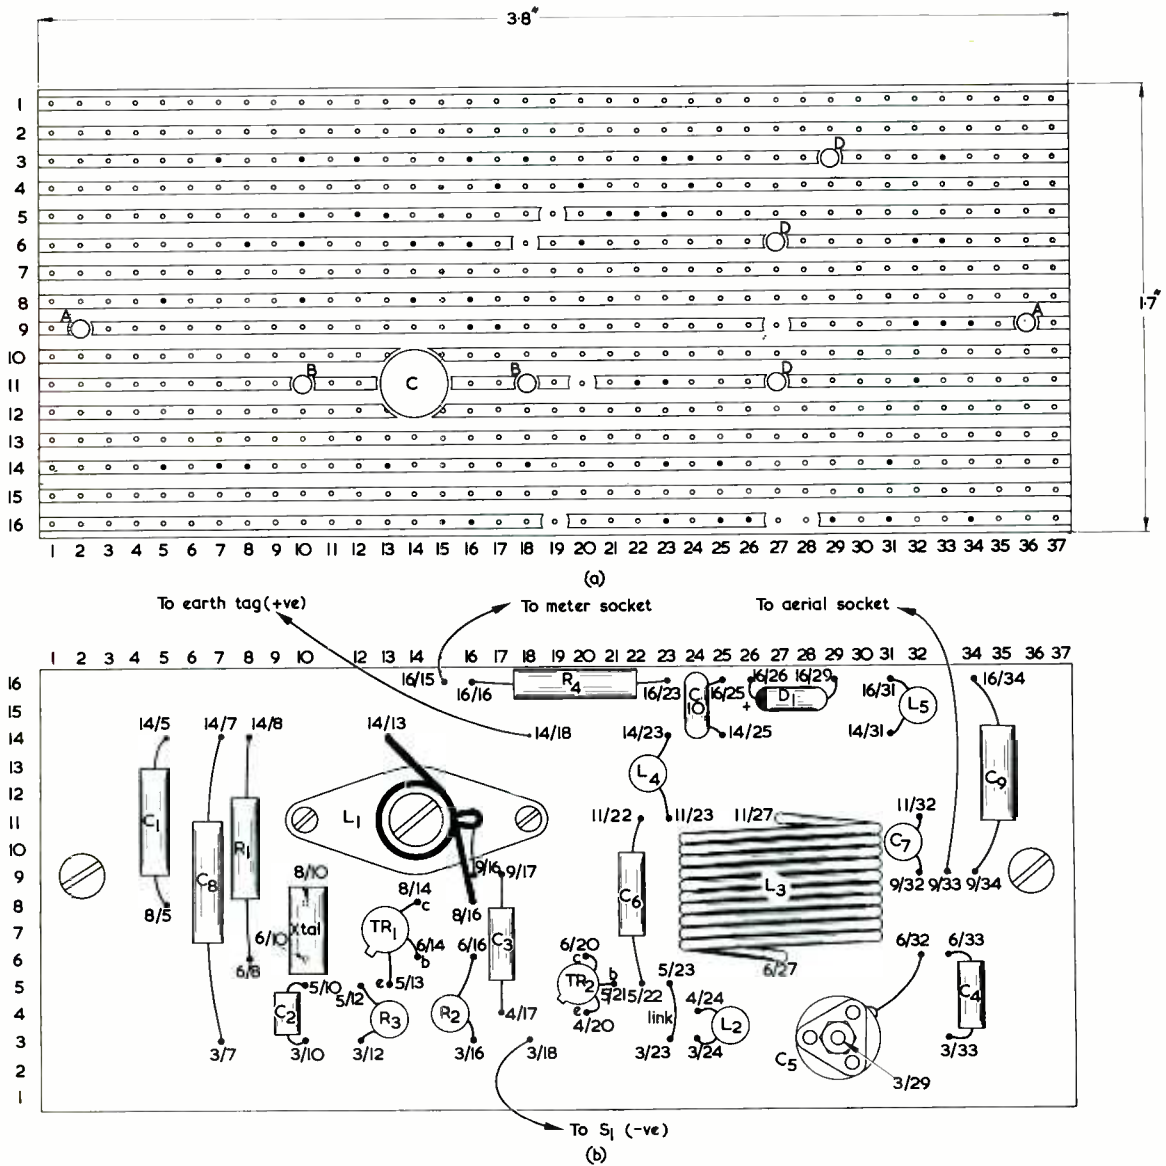
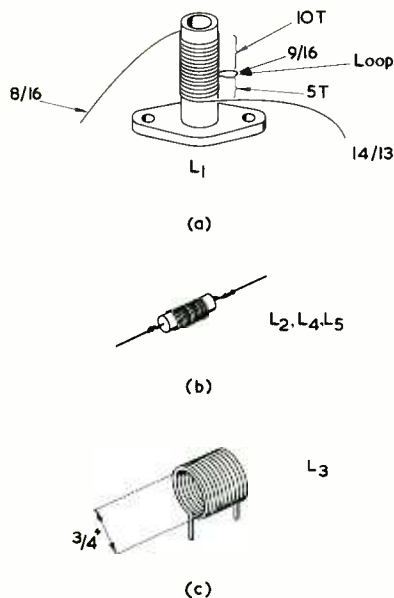

Fig. 4 (a). The copper side of the Veroboard after the strips have been cut and the holes drilled
Fig. 5 (a). How coil  $L_1$  is wound
Veroboard, 0.1 in hole matrix, dimensions as in Fig. 4 (a), (Newbury Radio (Forest Gate) Ltd.)
to size and carefully break the continuity of the copper strips, as shown in Fig. 4 (a), with the aid of a small drill or special cutting tool that is available for this operation. Next, drill the small holes in the panel, as indicated.
(1) Secure the 0.27in diameter Radiospares coil former, with iron-dust core, in place on the panel with the aid of two 8BA screws and nuts. Now, using 24 s.w.g. enamelled copper wire, close-wind the coil  $L_1$  on the former, as shown in Fig. 5 (a). Wind clockwise from the base upwards for 5 turns, form a loop, and then continue the winding, still clockwise, for another 10 turns, finally soldering the free end of the wire in place on the Veroboard. Solder a lead from the tap to the Veroboard panel, as shown in Fig. 4 (b).
(2) Take a small 3-pin transistor holder (see Components List) and remove the centre pin; now solder the modified holder in place on the panel by means of the two remaining pins. Press the sub-miniature 27 Mc/s crystal in place in the holder.
(3) Wire  $R_1$ ,  $R_2$ ,  $R_3$ ,  $C_1$ ,  $C_2$ , and  $C_8$  in place. Also solder transistor  $TR_1$  in place, taking care to ensure that it is wired with correct connections, and using a heat shunt on the leads when soldering. Check the rear (copper side) of the panel and make sure that no short-circuits are occurring across the lands between the copper strips. The circuit can be given a simple functional check at this stage by temporarily connecting the 18 volt supply to strips 3 and 14,
taking care to use the correct polarity (See Fig. 4 (b)), and placing the aerial of the field-strength meter very close to  $L_1$ . If no reading is obtained, adjust the core of  $L_1$  until the circuit oscillates correctly.